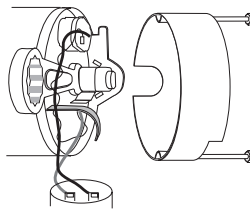

Figure 16 – Hold Shaft
2. If impeller must be replaced, loosen two machine screws and remove motor canopy (See Figure 16). If motor has a capacitor, go to step 3. If motor does not have a capacitor, go to step 6.
⚠ WARNING *Capacitor voltage may be hazardous. To discharge capacitor, hold insulated handle screwdriver by the handle and short capacitor terminals together (See Figure 16). Do not touch metal screwdriver blade or capacitor terminals. If in doubt, consult a qualified electrician.*